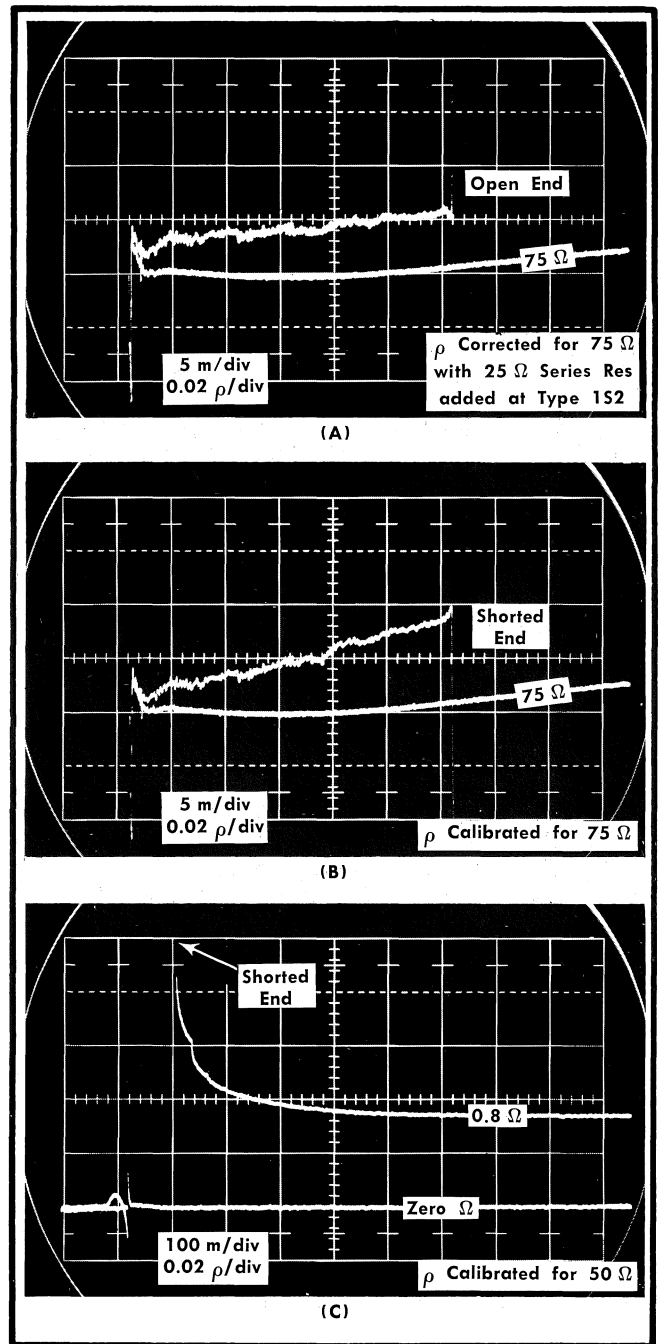

Fig. 2-23. Quality RG11/U cable resistance and ΔZ_0 characteristics. (Cable tested was 100 feet long.)
Fig. 2-23 shows the same series resistance characteristics for RG11/U cable. However, instead of terminating the cable end, the series resistance was measured first with the end open, and then with the end shorted. Note the difference in slope of the waveform (apparent change in resistance) after the signal has traveled to the indicated line end. The change in slope is due to distortion of the originally flat incident pulse by traveling through the cable once. As the non-flat signal reaches the cable end, its reflection back through the cable is altered a second time. The net result is an obvious distortion to the true resistive slope of the reflected "bits" of the distributed series resistance during the 2nd half of the reflection. This example is given to show the desirability of properly terminating any line section in which you wish to measure its total distributed series resistance. (Conditions leading to this changing slope phenomenon are described by H. H. Skilling on page 397 of his text "Electronic Transmission Lines", McGraw-Hill, 1951.) Each of the three waveform pictures of Fig. 2-23 is a double exposure with the lower waveform showing the normal Type 1S2 response to a termination resistance at (A) and (B) and a short circuit at (C).